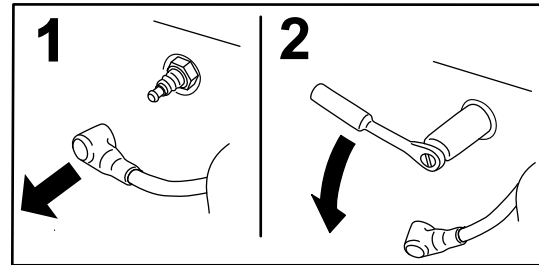

Figure 21
5. Disconnect the wire from each spark plug (Figure 21).